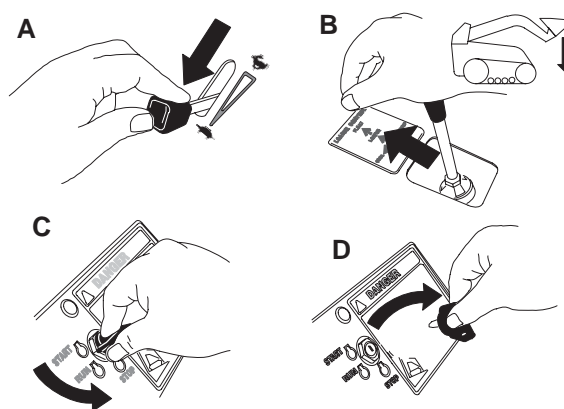

Figure 19
1. Move the throttle lever to the slow position (Fig. 19, A).
2. Lower the loader arm (Fig. 19, B).
3. Turn the ignition key to the stop position (Fig. 19, C).
4. Remove the ignition key (Fig. 19, D).